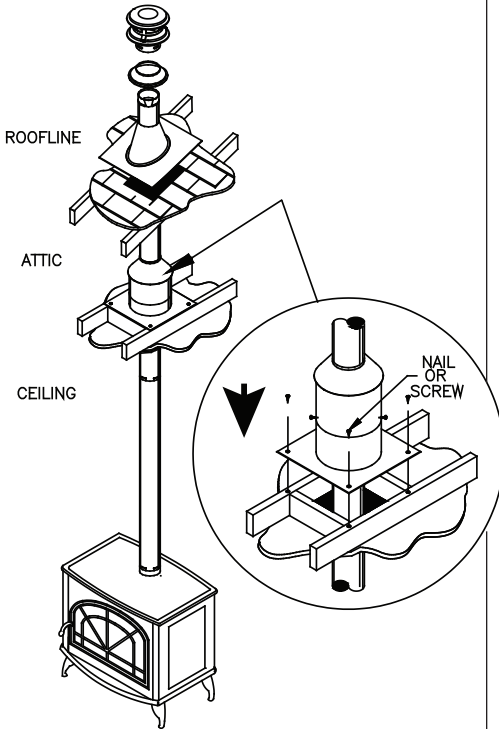

Figure 6
PelletVent Pro does not require additional sealant to be used at pipe joints, but in certain circumstances sealant may be used if desired. Seal the inner liner overlap at the male end of pipe for best results (*Figure 6*)
**G.** When the PelletVent Pro enters the attic, install an Attic Insulation Shield around the vent (**Figure 6**). This will prevent insulation and debris from collecting near the vent pipe. Use (4) nails or wood screws to secure the base of the Attic Insulation Shield to the framed opening. Adjust the height of the Attic Insulation Shield by sliding the top cylindrical shield over the one from the base. Ensure that the top of the Shield is above the level of building insulation. Secure the Shield in place with at least two (2) sheet metal screws through the side of the cylindrical shield. Attach collar around pipe, then lower to the top of the Attic Insulation shield.